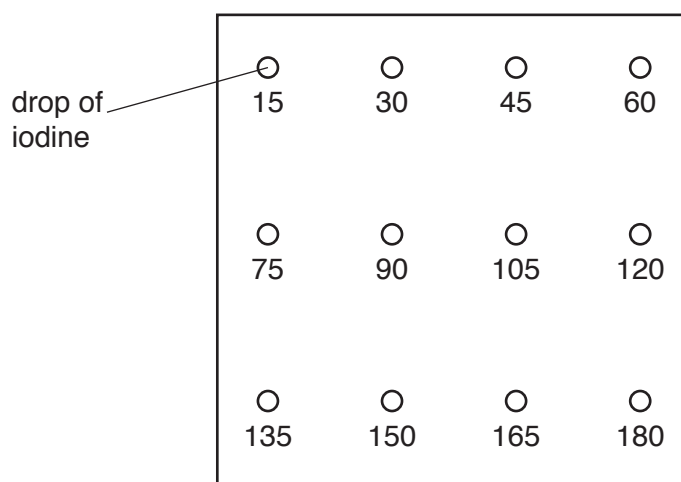

Fig. 1.2
5. Label the white tile, as shown in Fig. 1.2.
6. Put one drop of iodine on the white tile at each sampling time, as shown in Fig. 1.2.